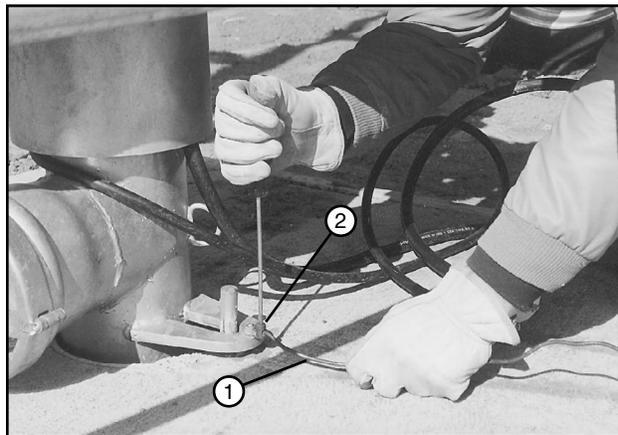

Figure 38-3 1. Ground Wire
7. Disconnect the ground wire from the ground lug on the lower riser ear. After removing ground wire, retighten the grounding lug screw so it is not lost while towing. See Figure 38-3.